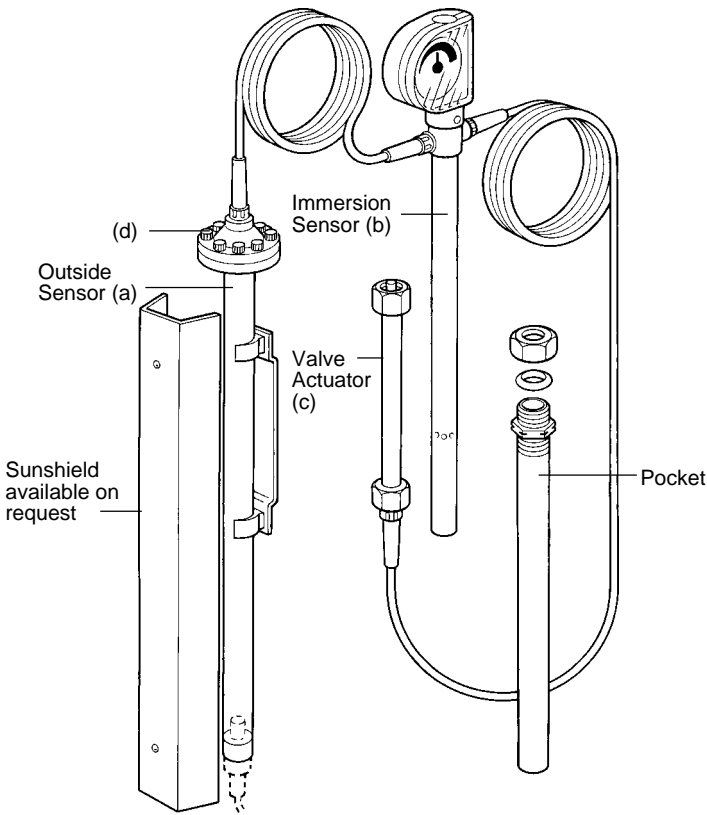

Fig. 1
1.1. The 202 Control Fig. 1 consists of a sensor (a) for sensing outside air temperature which is coupled to an immersion sensor (b) by means of a capillary tube which is extended to the valve actuator (c).